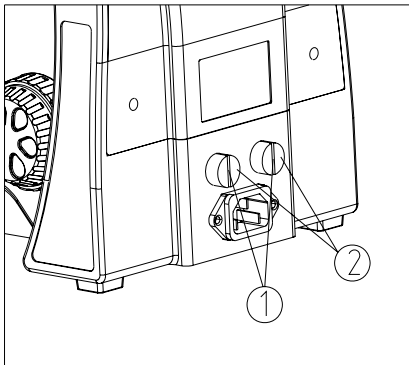

Fig. 18
Turn the main switch to “0” (OFF) before replacing the fuse. Pull out the power cord. Then screw off the fuse group①from the fuse base② with a “-” type screwdriver. Install a new fuse and screw it on the fuse base (see Fig. 18).